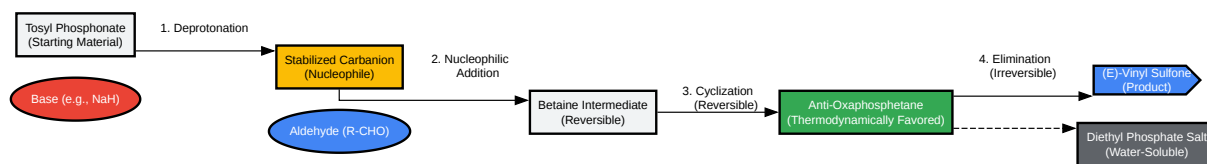

Figure 1: HWE Reaction Mechanism for (E)-Vinyl Sulfone Synthesis
Caption: Figure 1: HWE Reaction Mechanism for (E)-Vinyl Sulfone Synthesis.